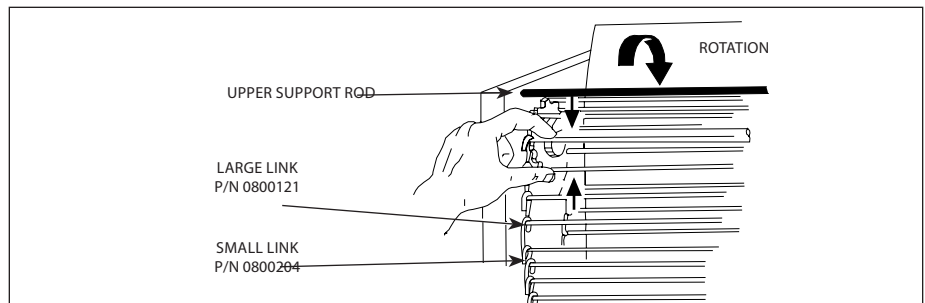

Figure 13. Removing Conveyor Belt Chain
9. Disconnect the Conveyor Belt Chain by squeezing any two links together and unhooking both ends one link (Figure 13). Needle-nose pliers may be used.
5. Disconnect the Conveyor Belt Chain by squeezing any two links together and unhooking both ends of one link (Figure 13).
NOTE: The ends of the hooks must point down (Figure 13).